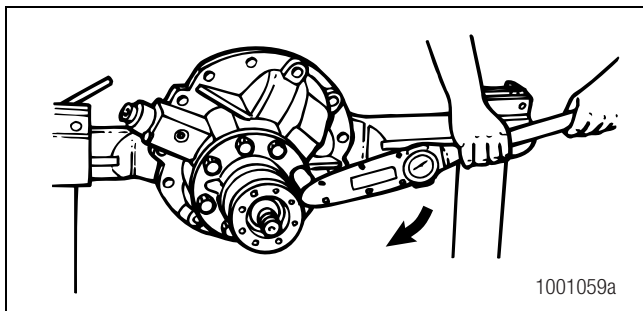

Figure 5.28
6. Install the bearing cage-to-carrier capscrews and washers. Tighten the capscrews to the correct torque value. Figure 5.28. Refer to Section 8.